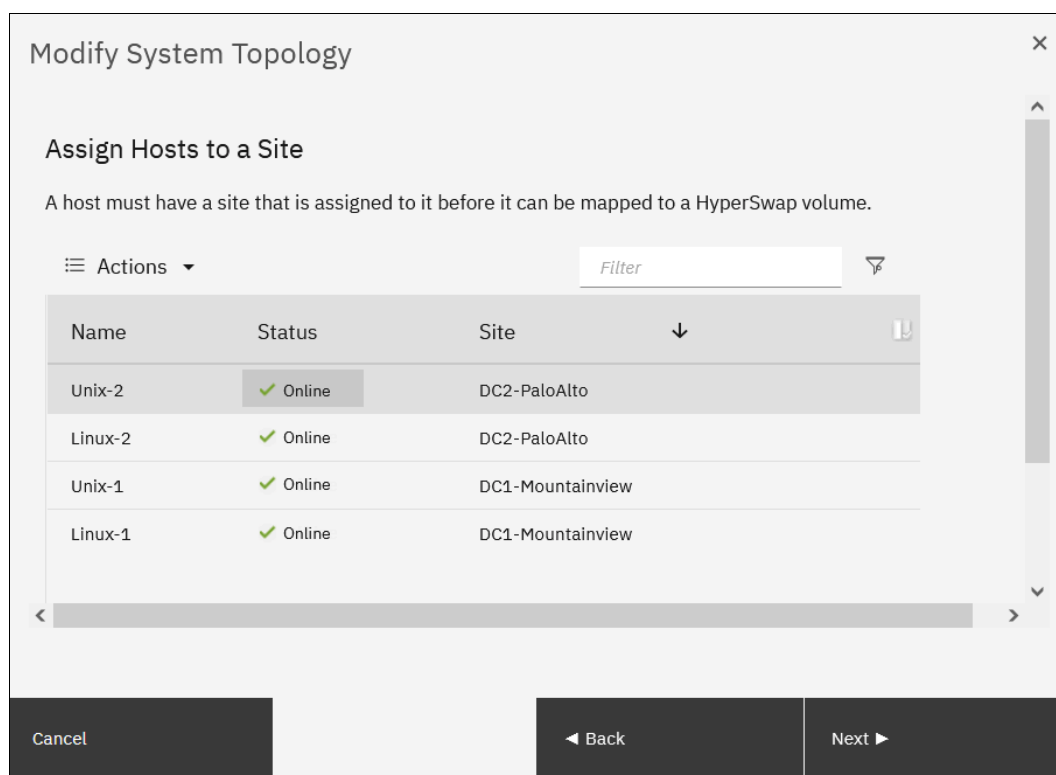

Figure 3-42 Assigning hosts to sites
4. If any host objects or back-end storage controllers are configured, you must assign a site for each of them. Right-click the object and click **Modify Site**. When done click **Next** as shown in Figure 3-42.